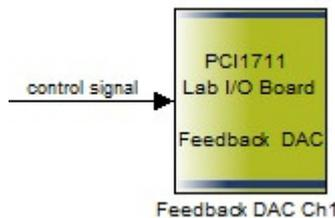

Figure 41 Feedback DAC Block – one input
- There is one input in this block and the block reads the value from this input and sends it to the analogue output of the PCI-1711 card (Figure 41).